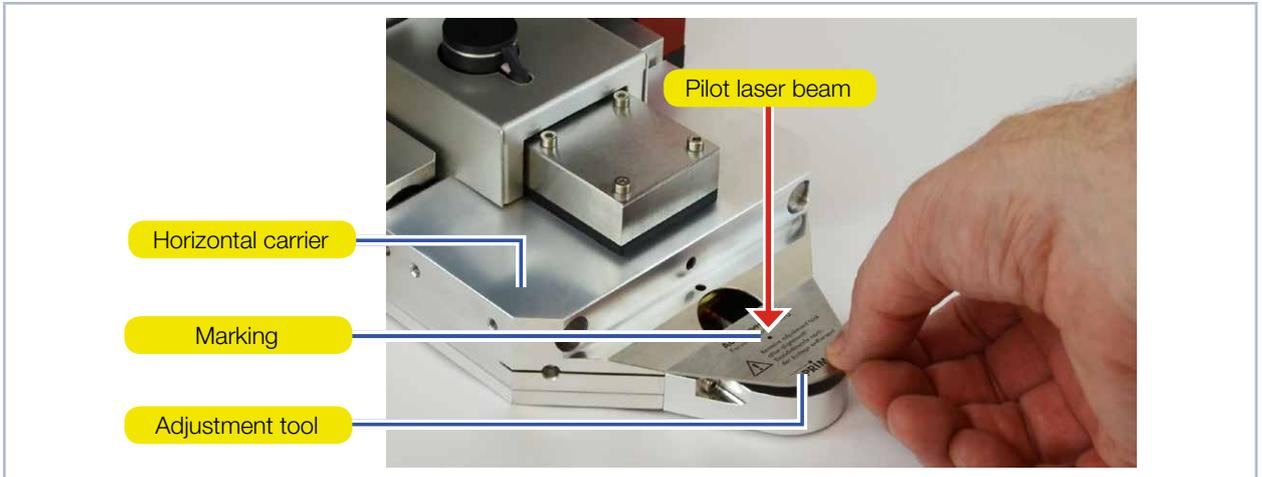

Fig. 8.7: Adjustment tool at the horizontal carrier of FocusMonitor FM+ HPD
An Adjustment tool (see Fig. 8.7 on page 19) is included with the device for easy alignment (x-y-plane) to the laser beam.
5. Place the Adjustment tool on the horizontal carrier (see Fig. 8.7 on page 19).